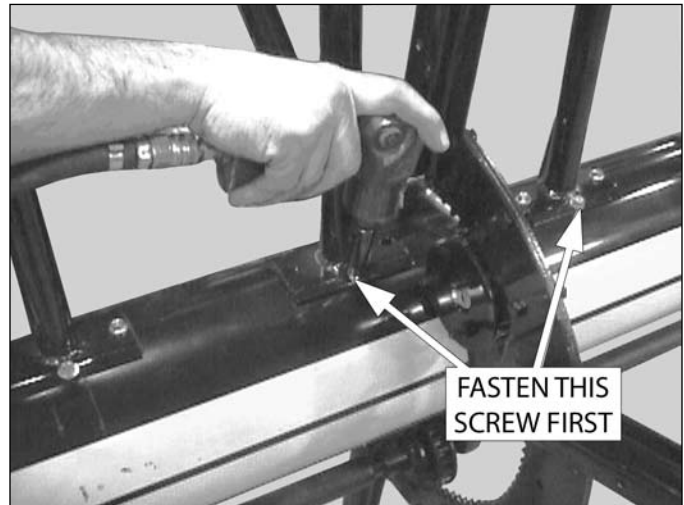

Figure 17, Fasten screws
- C. Drive three 11/32 X 7/8 self tapping screws through the air tube into the holes of the manifold (Figure 17) You may use an impact wrench for this step.